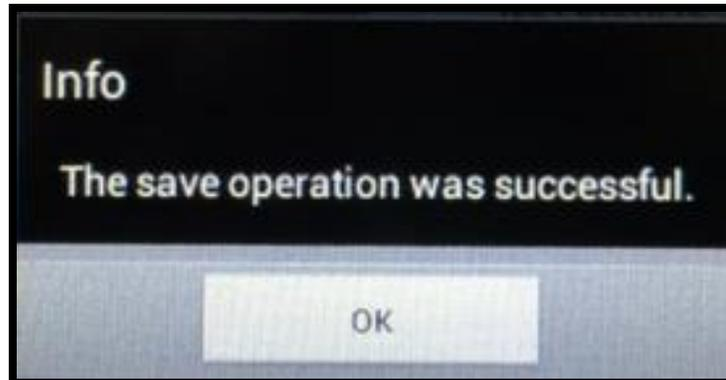

Figure 35
- f) The **SAVE** button when pressed will first confirm that the required fields (Company name, Operator, Sample number and Lot number, etc.) have been entered on the SETUP window. Should any of the fields be blank an ERROR message will be displayed “Please put company name in the SETUP window” press **OK** to return to the main REPORT window. If successful a window titled “Info –the save operation was successful” will appear. Press **OK** to continue and close the window. (See Figure 35)